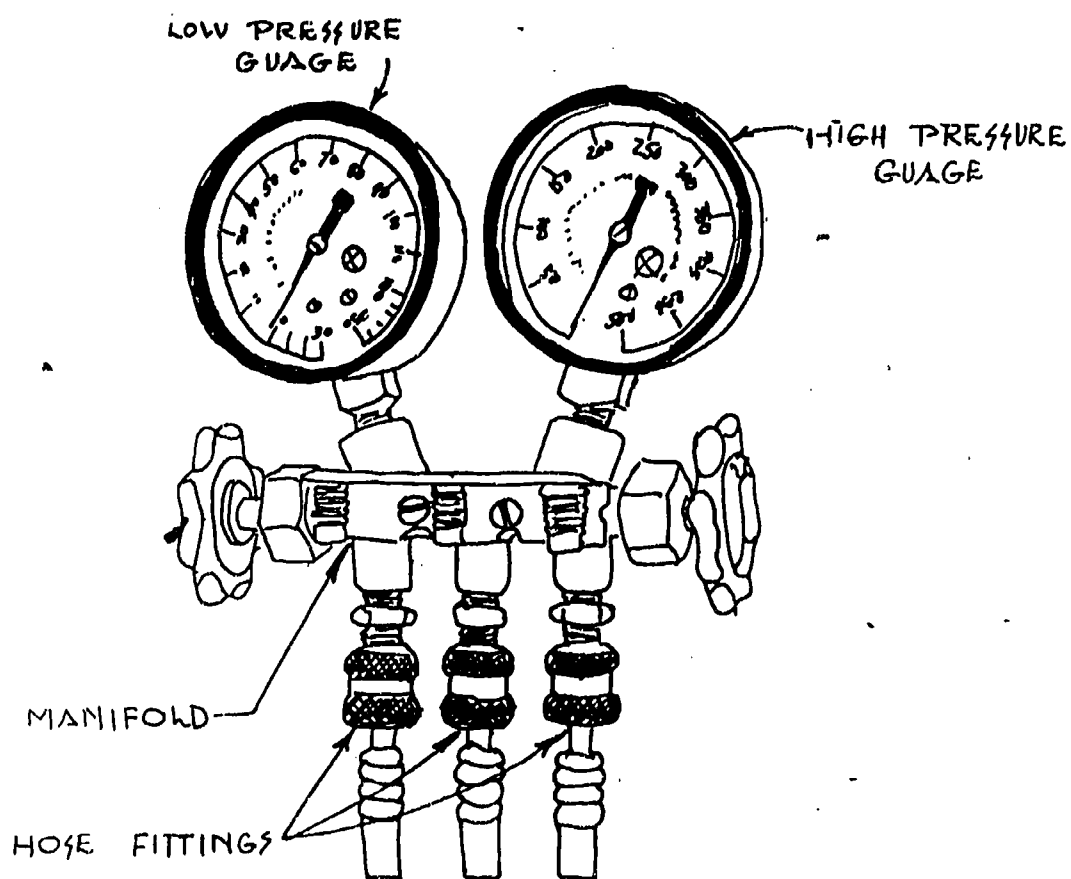

Fig. 1
Figure 1 shows a manifold with gauges and hoses. For the purpose of this package, the black scale (outside scale) will be used on each gauge. (Colors not indicated in Figure) The low pressure gauge ranges from 30 inches of vacuum to 250 psi. The high pressure gauge ranges from 0 - psi, to 500 psi. The low pressure gauge will be the only one used in this package.
Figures 1 and 2 will be used to show the steps to follow for troubleshooting the electrical system.
- c. Check for power at motor terminals AB & C. Lack of power on either starting or running terminals means circuit trouble. Use Figure 1 for reference.
- d. Test power between relay terminals F & C. Power between F & A or F & B. Use Figure 1.
- e. A test between C & G, also between C & H is the next step. Lack of power between either of these points means faulty relay use Figure 1.